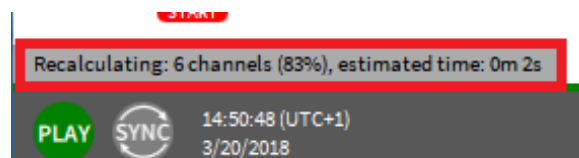

Fig. 7.176: Progress indicator for Offline Math calculations
- A *Progress indicator* will inform about the actual calculation progress (see Fig. 7.176) and contains information about the number of calculated channels, the calculation progress in percent and the remaining calculation time: